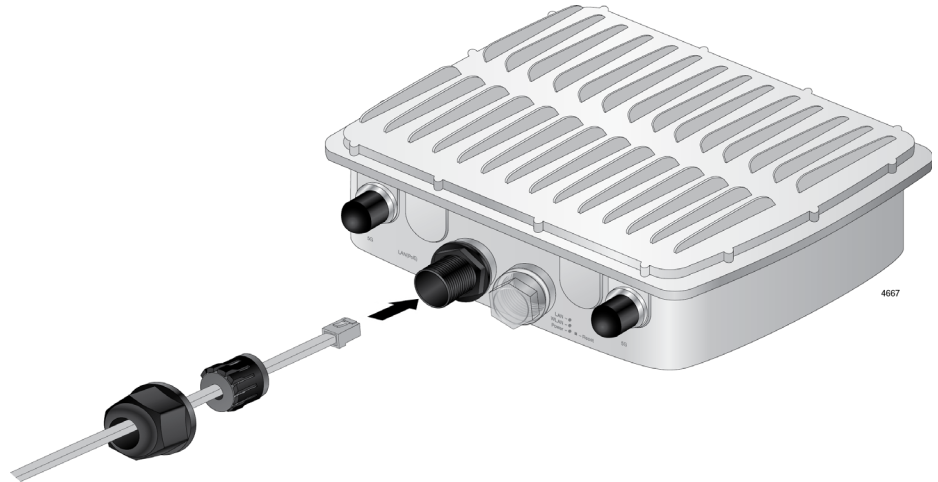

Figure 7. Connecting the LAN Cable and Attaching the Sealing Nut
5. Connect the RJ-45 plug into the LAN port and screw the sealing nut to the access point. See Figure 7 on page 33.